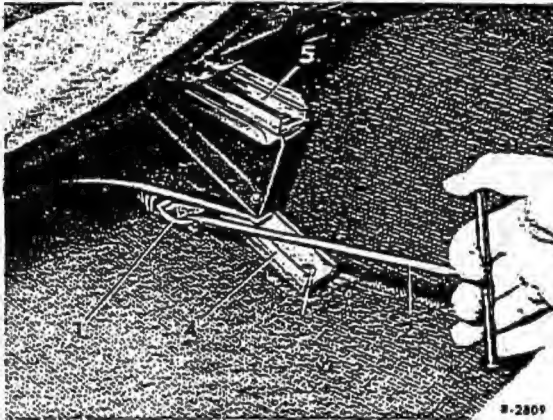

Fig. 91-1/1
1. Move both seat adjusters forward as far as the stop (Fig. 91-1/1).